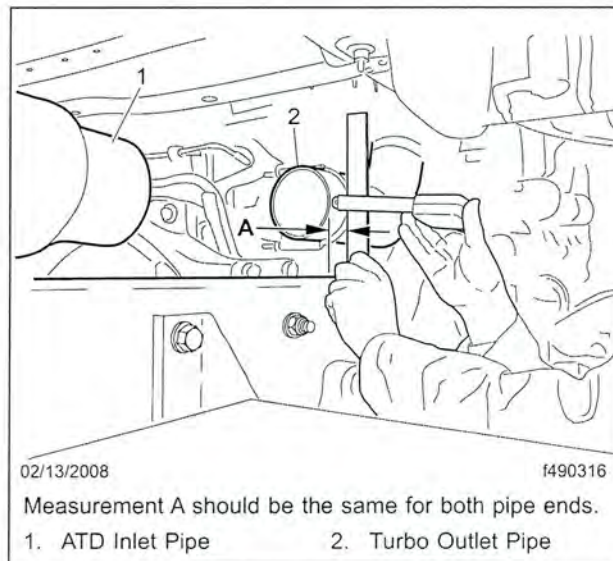

Fig. 2, Horizontal Measurement
- 3.4 Measure the horizontal distance between the pipe and the frame rail. See **Fig. 2**. This measurement must be the same for both pipe ends.